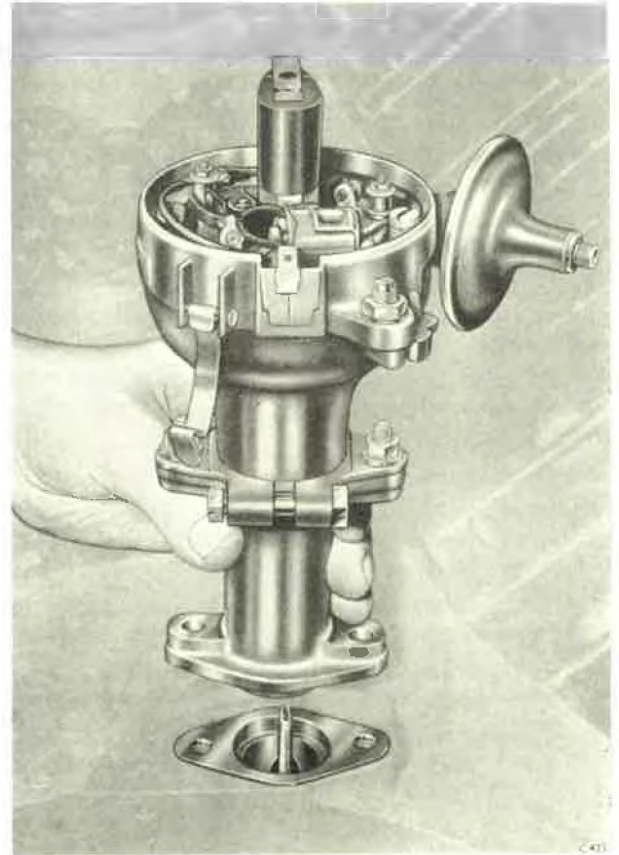

Fig. M3 (S) Method of fitting distributor
Fit the distributor and secure the pedestal to the crankcase with two setscrews as shown in Figure M3(S) of this Supplement.